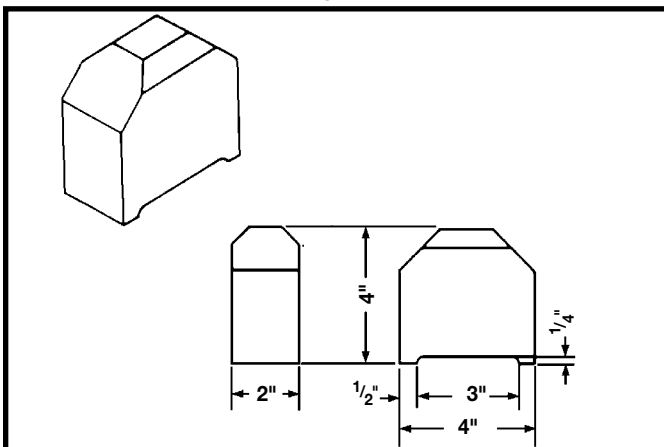

Fig. 36
2. The outfeed roller is adjusted at the factory to be 0.020" below the cutting circle. In order to check and adjust the outfeed roller, you will need a homemade gage block made of hardwood. This gage block can be constructed by following the dimensions shown in Fig. 36. **NOTE: Make sure that the height of the block is exactly 4".**